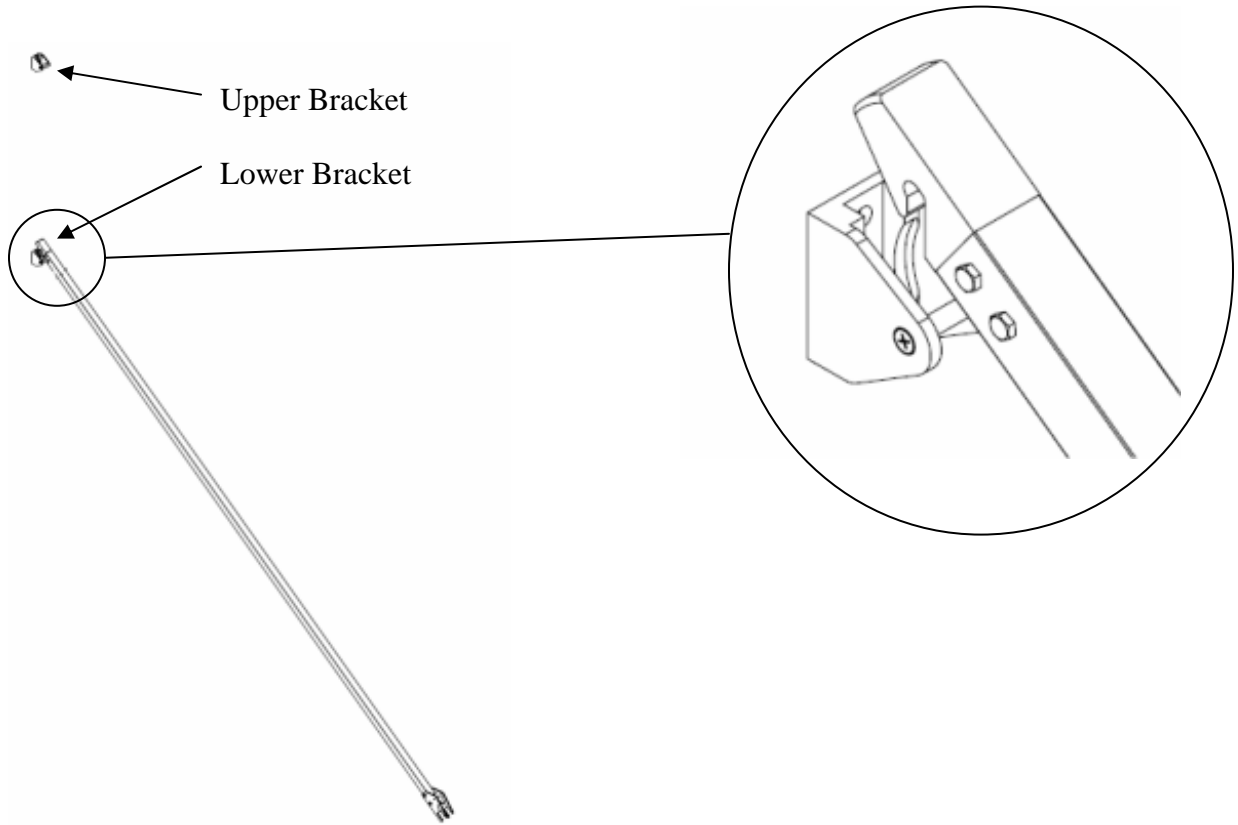
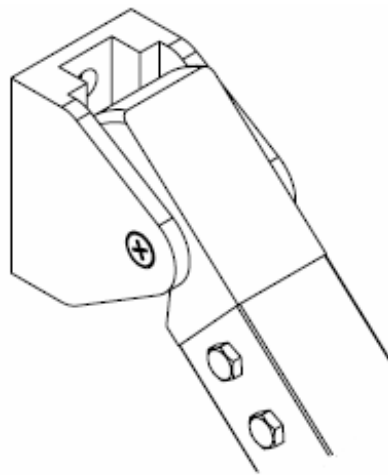

Figure 1 - Prepare to install Quick Connect tube onto trailer bracket
Figure 2 - Quick Connect tube preliminarily installed on trailer bracket
1. Set the Quick Connect end of the first lower frame tube at approximately 60° to ground just above the first lower frame bracket. **Fig. 1** Lower the bar straight down into the bracket. The pin on the bracket must slide into the cam groove on the Quick Connect tube end. **Fig. 2**